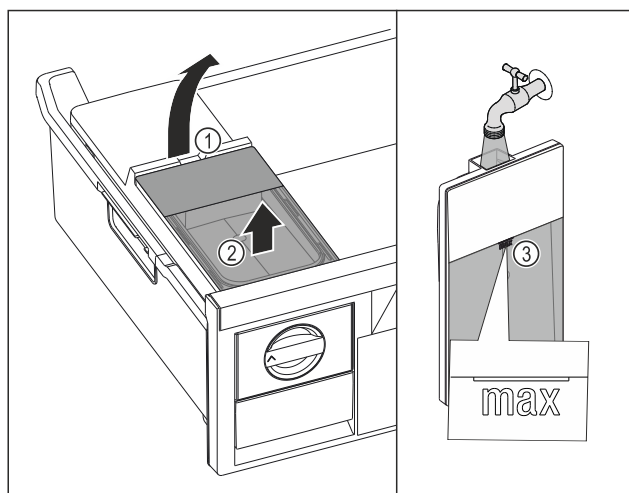

Fig. 70
- Lift the water tank at the recess Fig. 70 (1).
- Remove the water tank by lifting it upwards. Fig. 70 (2)
- Fill the water tank with drinking water up to the mark Fig. 70 (3).